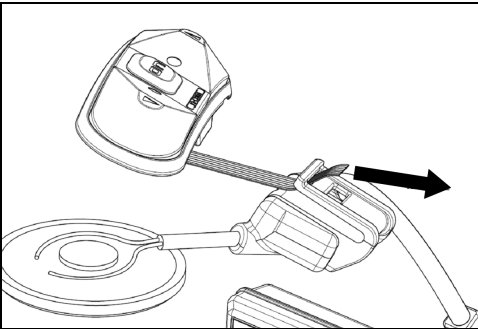

Fig. 2
- Thread the keypad flex cable into the plastic clip, as shown in Fig. 2